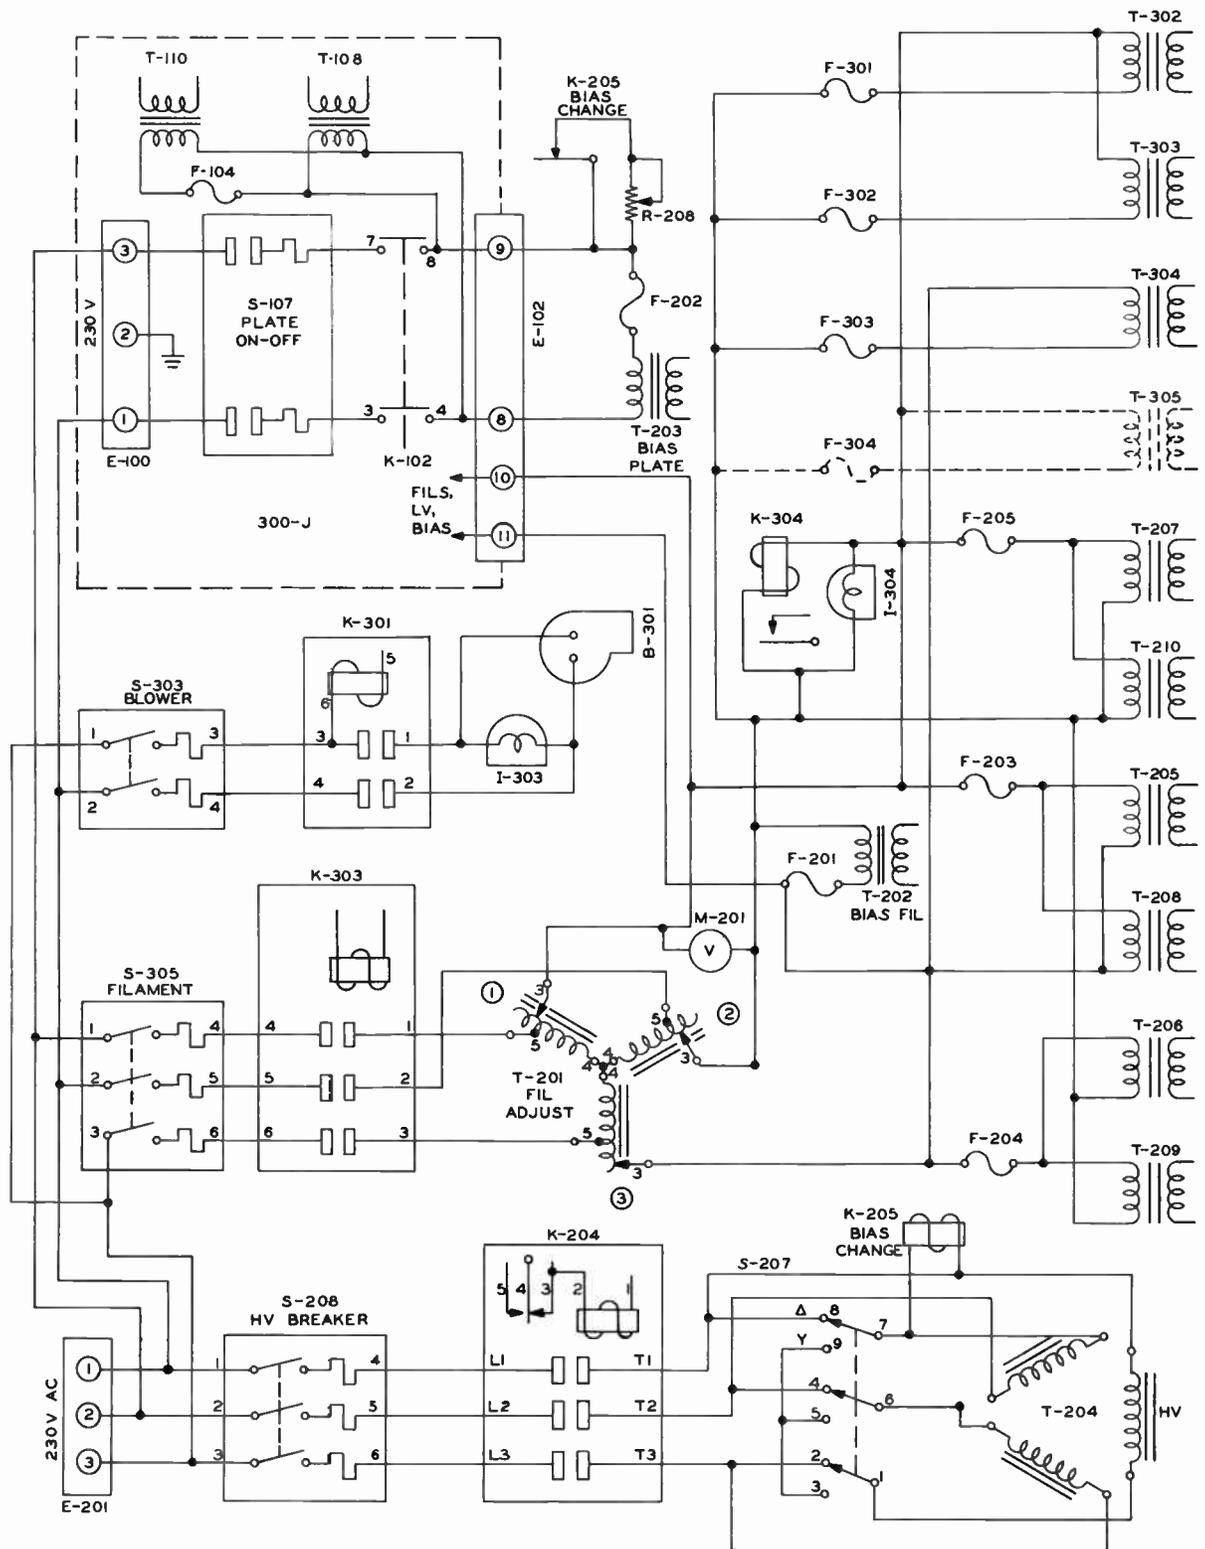

Figure 4-1. Primary Power Circuits.
The bias supply consists of a rectifier filament transformer, T-202, which is excited simultaneously with application of transmitter filament power, a full-wave plate transformer, T-203 which is excited upon application of plate power to the driver cabinet, a pair of 866A rectifiers and a suitable choke input filter. A variable resistor, R-208, in the primary lead of T-203 is shorted out by contacts of bias change relay K-205, when the transmitter is operating high power. R-335 and R-336 select the bias needs for the modulators in high-power operation and R-208 in low-power operation. (See figure 4-1). The value of bias for the RF power amplifier tubes is pre-determined by voltage divider R-338 and R-339. The maximum output voltage of this supply is minus 1200 volts.
a. FILAMENT. (See figure 4-1) T-201, FILAMENT ADJUST is a 3 phase, 230 v, adjustable autotransformer used to adjust the primary voltage to all the filament transformers in the 21E/M transmitter.
b. PLATE. (See figure 4-1) The 3 phase 230 volt current to excite plate transformer T-204 flows first through HV BREAKER switch S-208 then through high voltage contactor K-204 and through HV-LV switch S-207. S-207 connects the primary of plate transformer T-204 in a delta configuration for high power and in a "y" configuration for low power. Paragraph 4.4.1. explains the circuit to get high voltage contactor K-204 energized.
If the transmitter fails to start, circuits should be checked in the order in which they are made operative. The Primary Control Circuit Diagram, figure 4-1, should be of assistance in locating trouble in the primary circuits. Table 3-1, Typical Meter Readings, and Table 5-1, Typical Voltages and Currents, are supplied as a reference of typical voltages and currents in an average 2LE/M transmitter. A list of typical readings of all panel meters of the individual transmitter should be made as an aid to rapid trouble shooting.